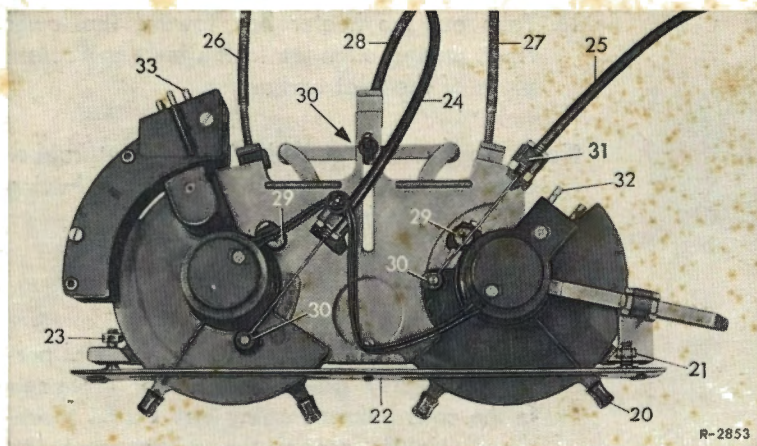

Fig. 83-3/3
5. Pull off the handles (20) (Fig. 83-3/3).